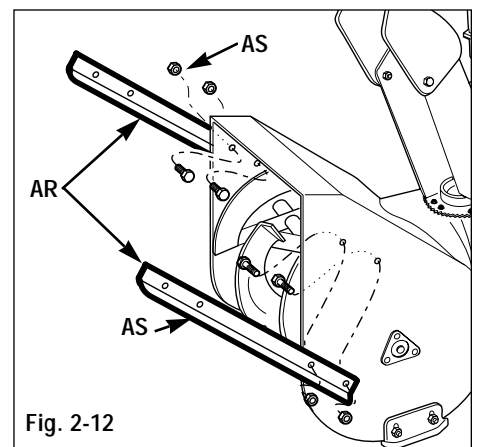

Fig. 2-12
The optional drift slicers (AR, Fig. 2-12) are designed for use in deep snow conditions. To install the drift slicers:
1. Position the drift slicers (AR, Fig. 2-12) to the **outside** of the auger housing.
2. Attach the drift slicers with the four 5/16-18 x 3/4 screws and locknuts (AS) provided with the drift slicers.